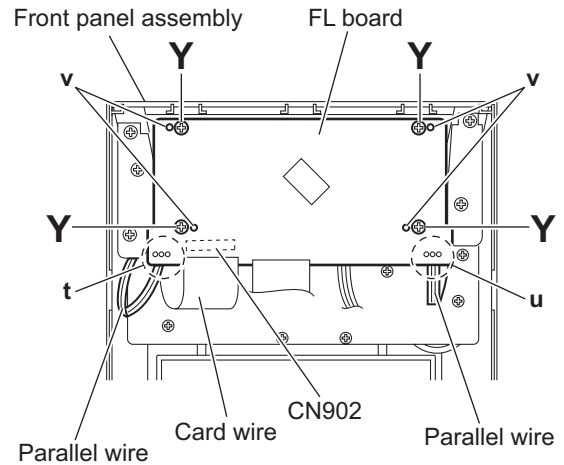

Fig.26
(See Fig.26)
### 3.1.16 Removing the encoder board (See Figs.26 to 29)
- (2) From the inside of the front panel assembly, disconnect the card wire from the connector CN902 on the FL board. (See Fig.26.)
- (3) Remove the four screws **Y**, three screws **Z** and two screws **AA** attaching the each board. (See Figs.26 and 27.)
- (4) Take out the FL board with the switch and standby LED boards.